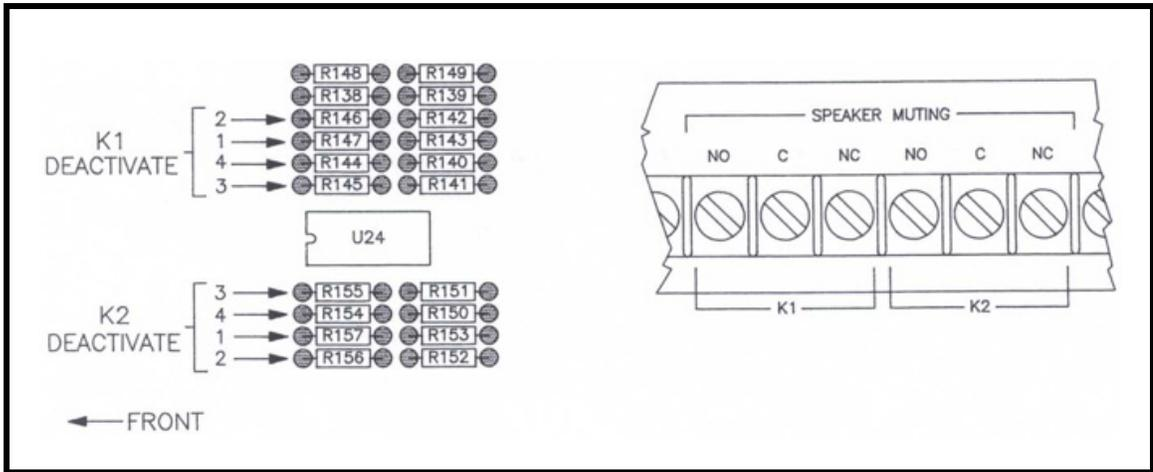

FIGURE 14. Speaker Muting Zones
Two (2) sets of relay contacts are provided at the back panel of the 4010 Central Electronics for area control of speaker muting. These relays work in conjunction with the Stage Announce (SA) buttons on the Control Stations. This permits, for example, the audio operator to use the SA without interrupting the director's program monitor speaker and vice versa. By cutting out the resistors, shown in Figure 14, the relay will be deactivated for that station. The station numbers are determined by their priority selection priority 1, station 2 has priority 2, etc. Normally, with all resistors intact, both relays work when an SA button is pressed on any Control Station.